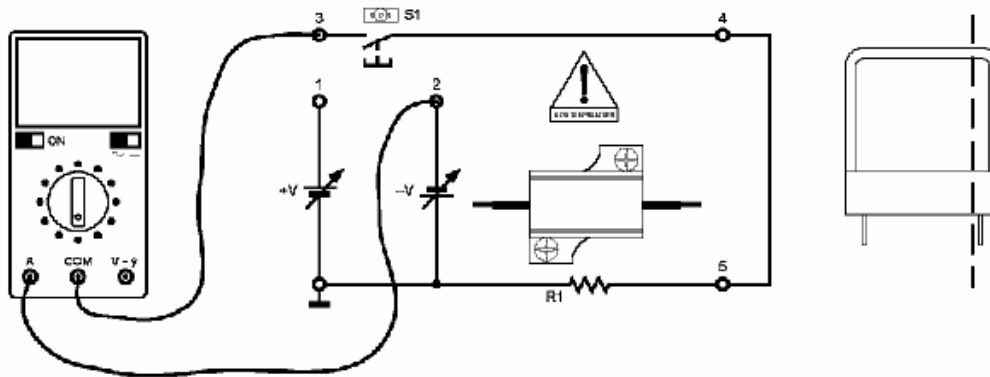

Fig 2.5: Topographical diagram of negative voltage for rectilinear conductor
8. Connect the ammeter between jack 2 and jack 3 (Fig.2.3 and Fig. 2.5)